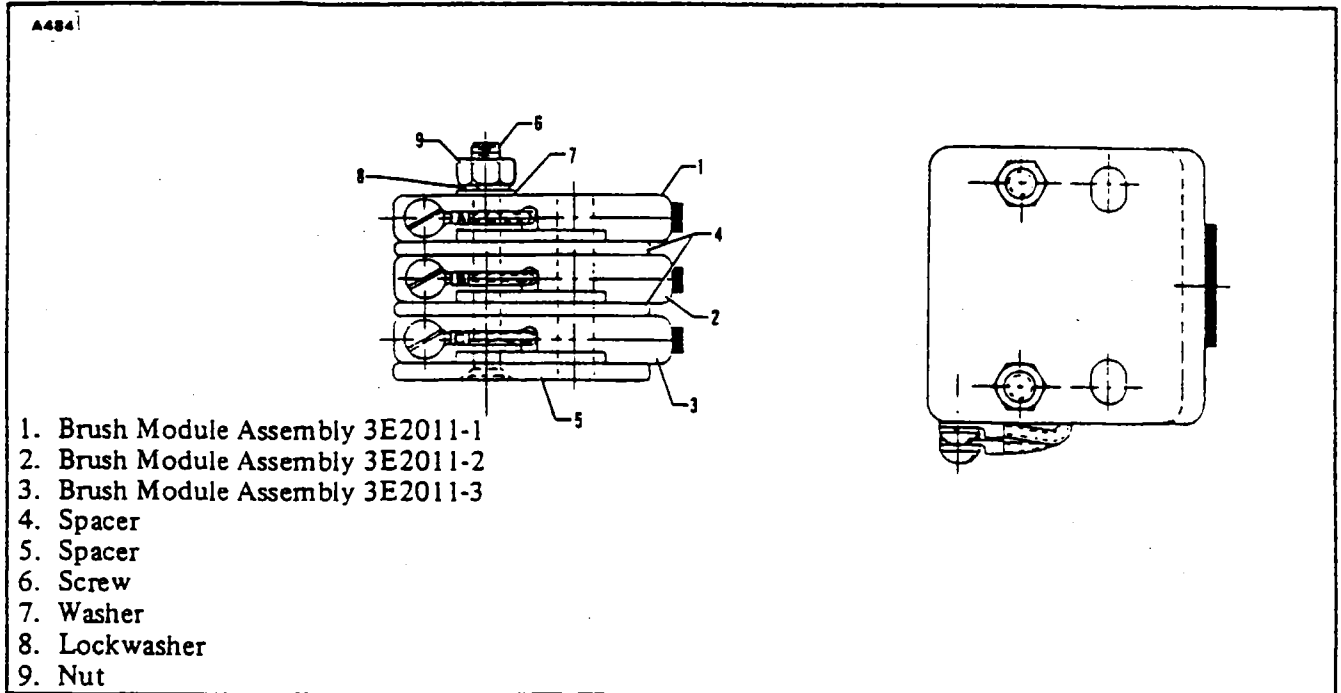

Figure 14-10b. Modular Brush Assembly 3E2042-1 (2 Bladed Prop)
- c. Restack modules and spacers as shown in Figure 14-10b. If there is interference between adjacent ring terminals, reorient center module as shown in Figure 14-10a.